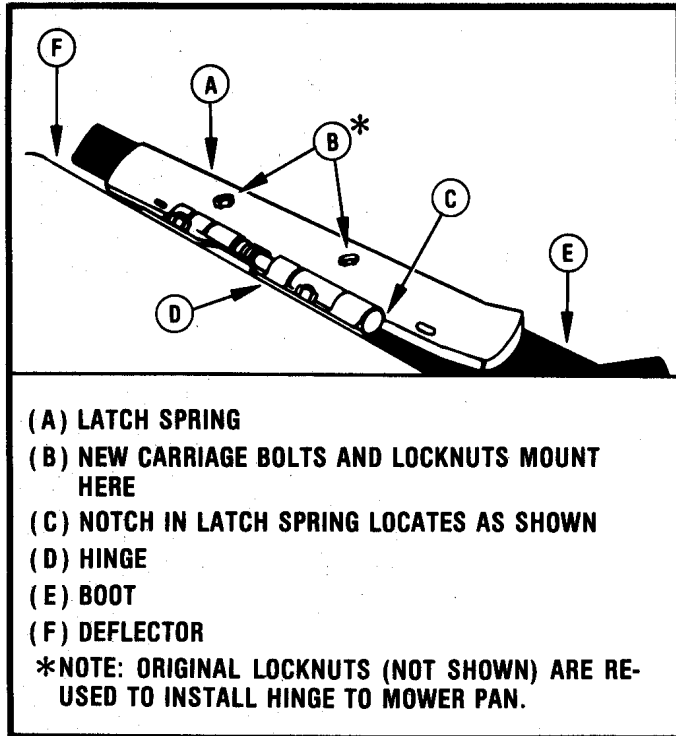

FIGURE 11-10
1. Remove one of the existing carriage bolts and locknuts securing hinge of chute deflector to mower pan. See Figure 11-10. Discard the carriage bolt and retain the locknut. Install one of the new longer carriage bolts from parts bag in place of the original carriage bolt. Secure the hinge with the original locknut. Repeat this procedure for the other carriage bolt and locknut so that hinge is secured in both points with new carriage bolts.
2. Install latch spring over the re-installed locknuts securing the hinge and secure it in position with new locknuts from parts bag as shown in Figure 11-10.
Install the 32'' boot as shown in Figures 11-10 and 11-11 by positioning the bottom of the boot on the mower pan studs and the top of the boot underneath deflector and latch spring so that the holes in the boot engage the latch spring pins. Secure bottom of boot with two wing nuts supplied in parts bag. Assemble and install tube as shown in Figure 11-11.